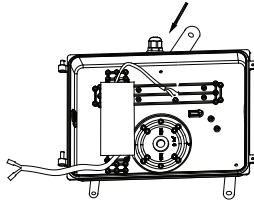

Figure 2
2. Choose an appropriate connection hole according to your requirements. Loosen the plug, and then fit the waterproof connector from the accessories; rotate the three mounting kits to the proper angle. (Figure 2)